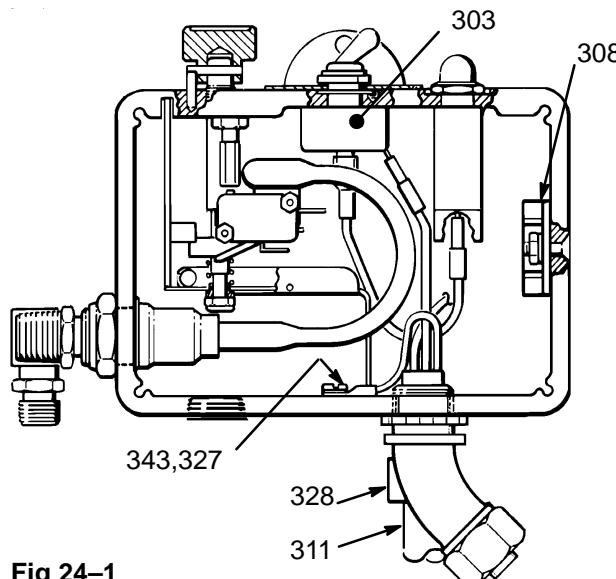

Fig 24-1
See Fig 24-1.
2. Use a needle nose pliers to disconnect the upper terminal wire from the microswitch (302) for ease in removing the ON/OFF switch (303). See Fig 24-1.
3. Use pliers to disconnect the two black wires from the ON/OFF switch (303). See Fig 24-1.